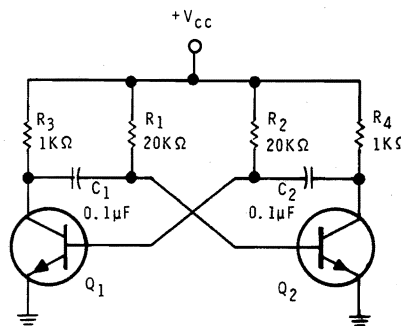

Figure 6-80
7. Refer to the circuit shown in Figure 6-80. The output frequency will be approximately:
8. Refer to the circuit shown in Figure 6-80. The duty cycle of the output waveform will be: